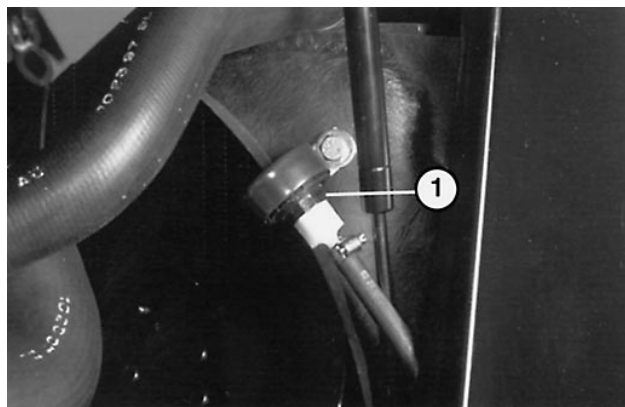

Figure 48
2. The breather is located along the right side of the radiator (Fig. 48). Clean the area around it, unscrew it with a wrench and install the replacement.